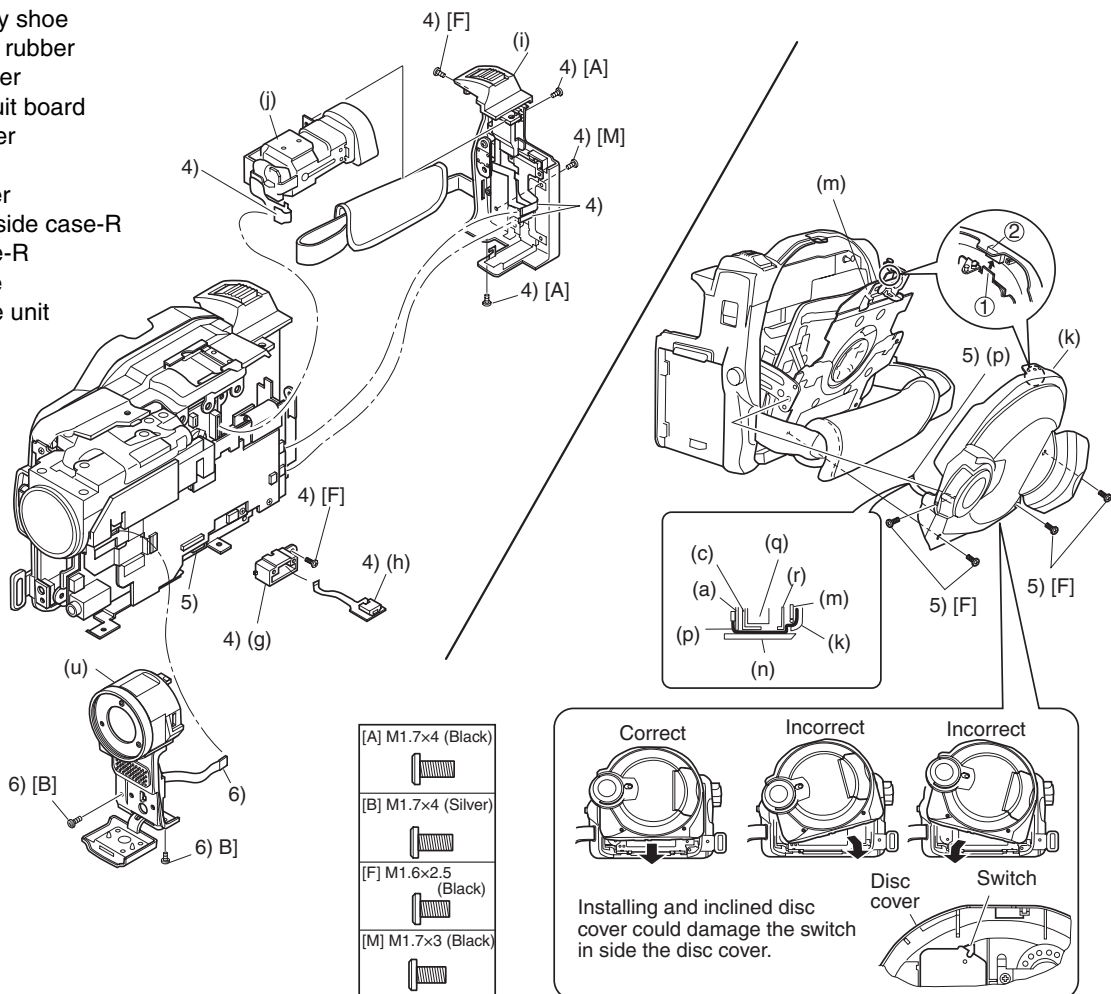

Fig. 4-7-8 Setting to service position (B) -2/2-
- 4) Assemble the USB holder, USB-H/USB circuit board, rear cover and EVF unit. (See Fig. 4-7-8)
- 5) Assemble the disc cover so that hinge ① of side case-R fits into point ② at the top of inside of disc cover. Do not incline the disc cover at this time. Inclining the cover when assembling it could break the switch inside the cover.